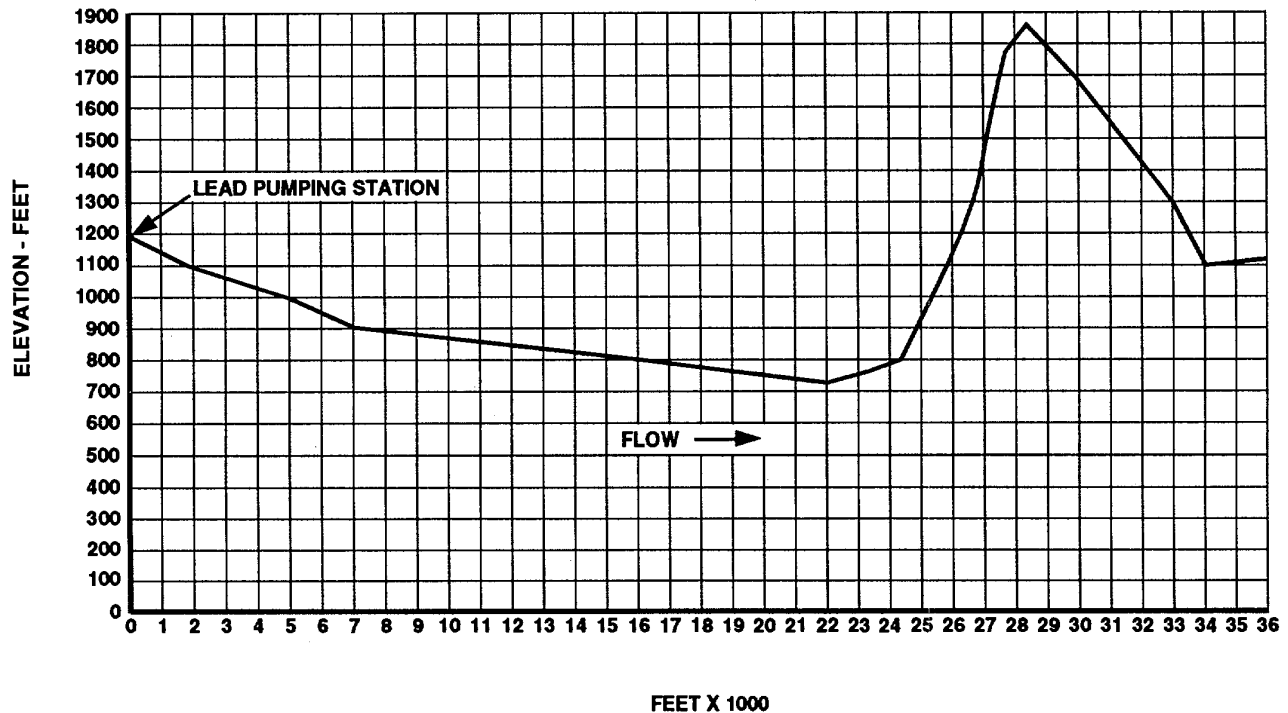

Figure 2-8. Ground Profile.
- Divide horizontal base of ground profile graph, Figure 2-8, into spaces that represent uniform distances, such as 1,000 foot intervals. However, any suitable scale can be used. The ground profile base represents the horizontal distance the hoseline will cross.